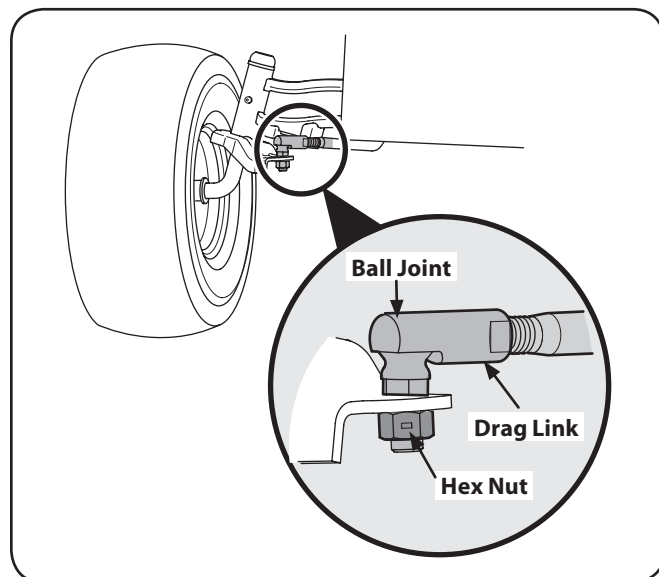

Figure 6-6
1. Remove the hex nut on the bottom of the ball joint. See Fig. 6-6.